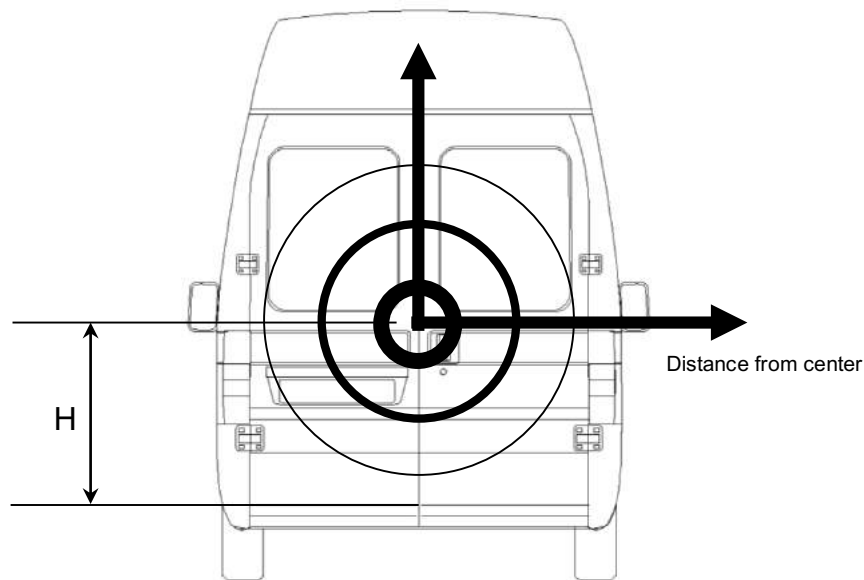

Fig.4
- The positioning of the armor, with respect to the lower edge of the door "H", must be such as to maximize the efficiency, thus **the most possible to the center of the door** (see fig.4).